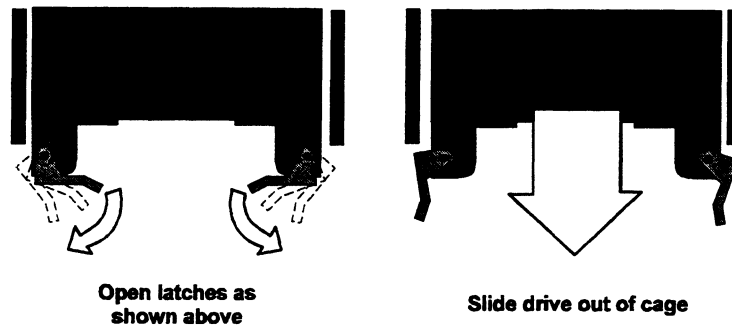

Figure 3-7 Unlocking and removing the drive from the hot-swap cage
6. Starting at SCSI ID 0 (the bottom bay on the front panel), unlock the drive's latching clips by swinging them out (see Figure 3-7). Install drives in ascending order, starting at the bottom bay.